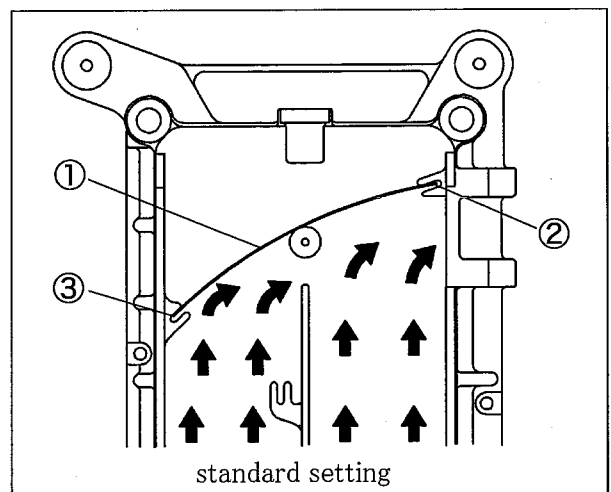

Fig. 75
To set the standard position, insert the air deflector ① into the guides ② and ③. (See Fig. 75)